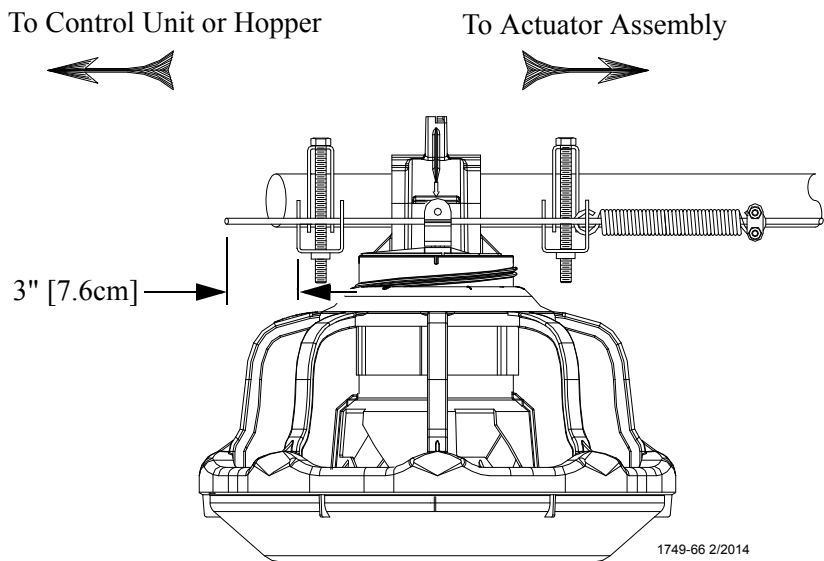

Figure 74. Trim excess actuator wire at control/hopper
5. With the brood in the open position, go to the control unit or hopper end to trim the extra actuator wire. Leave **3 inches [7.6 cm]** of excess wire past the spring bracket, See **Figure 74**.